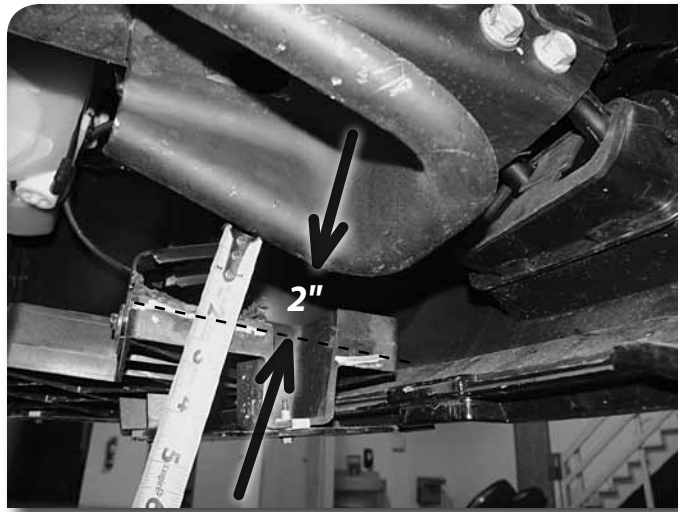

Figure 4
10. Note where the plastic bumper piece is located below frame alignment hooks. Measure down 2" and mark bumper for clearance. Figure 4. This will be trimmed once the bumper cover is removed.
56. Grind off / cut inside of plastic bumper cover for clearance. Reference **Figure 4**. Approximately 1/2" will be removed.